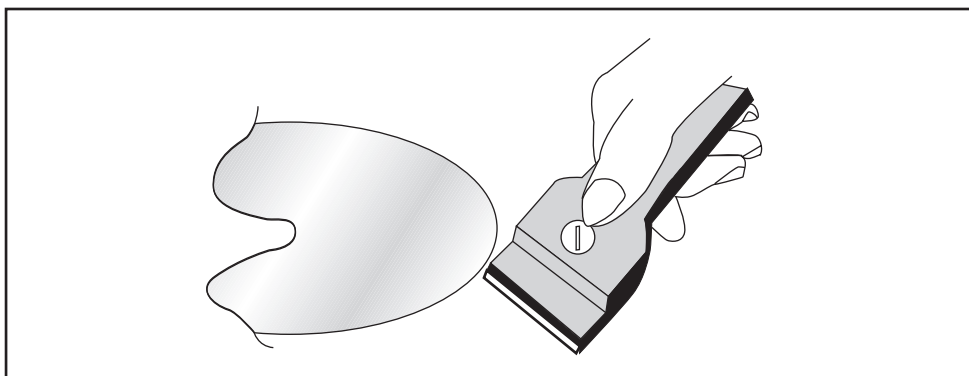

Fig.4
O.S.D.(Overflow Safety Device) (Fig.4):
• **Maintenance (Fig.4):**